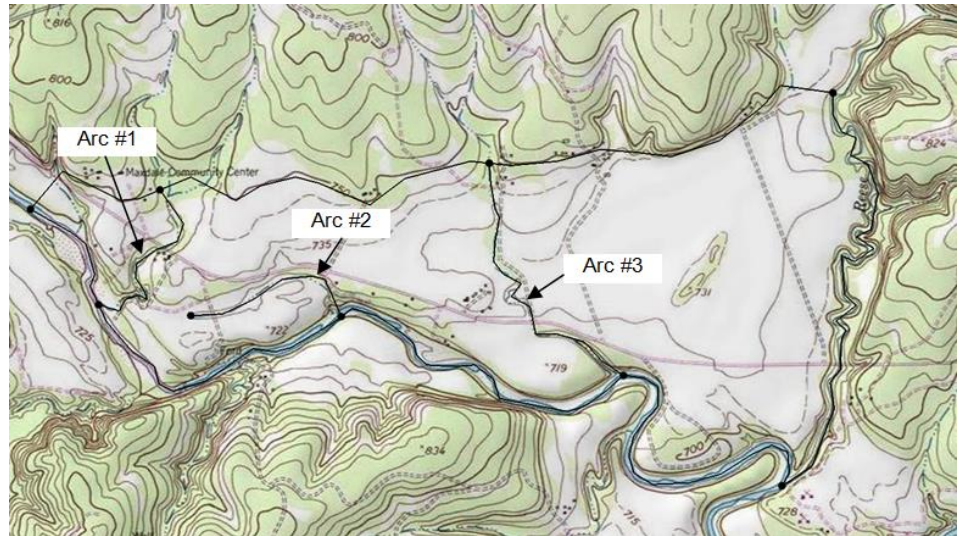

Figure 5 The drain arcs
1. Using the **Create Arc**  tool, create arc #1 as in Figure 5. Start by clicking on the bottom arc, then clicking points along the creek bed, and ending by clicking on the top arc.
2. Create the arc labeled arc #2 in Figure 5 by clicking on the bottom arc, clicking points along the creek bed, and then double-clicking at the end of the creek bed.
3. Create arc #3 in Figure 5 the same way that arc #1 was made.